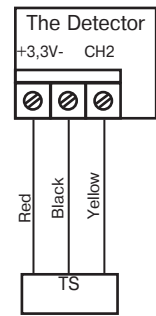

Figure 3 – The TS Hooking up to the Detector
6.2 If it is necessary to log the Detector in double-channel mode, switch TS to the Detector as shown in Figure 3 or short-circuit the terminals of the Detector «-» and «CH 2». For the single-channel mode neither switching on, no short-circuit is required.
Install the PCB and if it is necessary, hook up TS to the terminals in accordance with Figure 3. Put the cover on it's place.